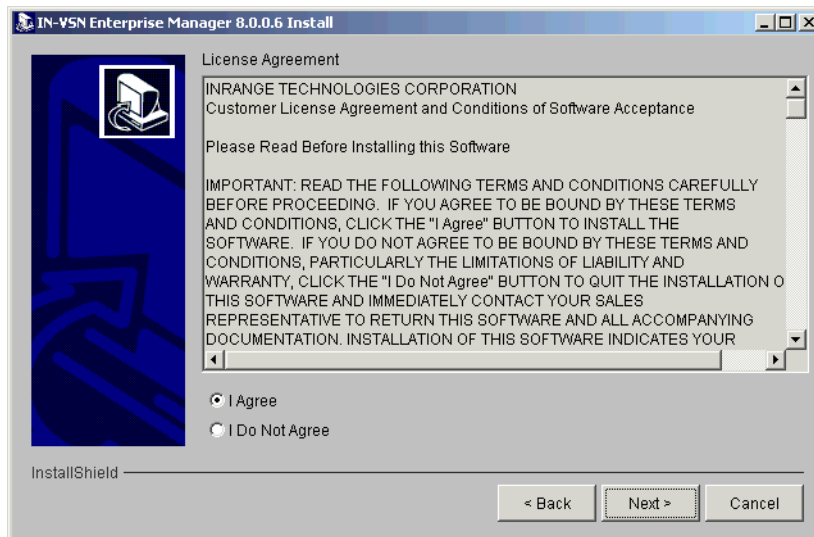

Figure 3-6 IN-VSN License Agreement
3. Click **I Agree** and **Next** in the License Agreement Window as shown in Figure 3-6.